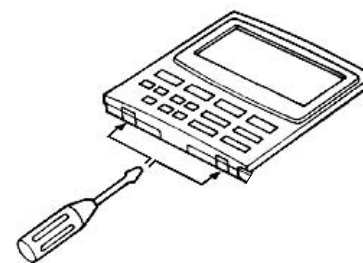

Fig. 3-131
- (1) Remove the cover of the optional wired remote controller. (Fig. 3-131)